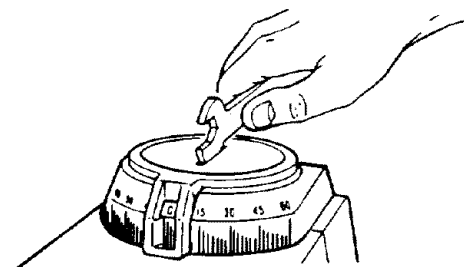

Fig. 55-A
11. Use a  $1/8$ " hex "L" wrench to loosen the four screws in the front of the *column support* slightly, if you have not already done so in the Adjusting Elevation section. (Figure 55)
21. Set miter indicator on  $0^\circ$  position as shown. (Figure 55-A)